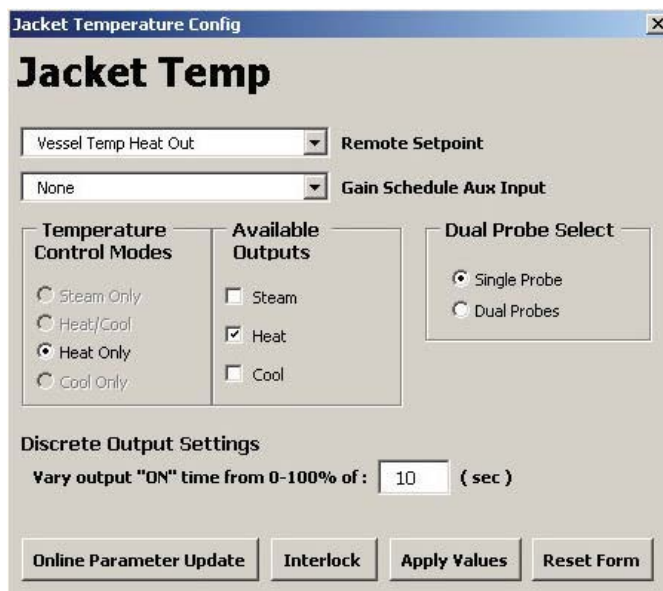

Figure 4.22. Jacket Temperature Configuration screen.
7. Set the Control Modes and Available Outputs to “Heat Only,” and click the radio button for the correct number of probes. “Discrete Output Settings” will not be used (Figure 4.22).